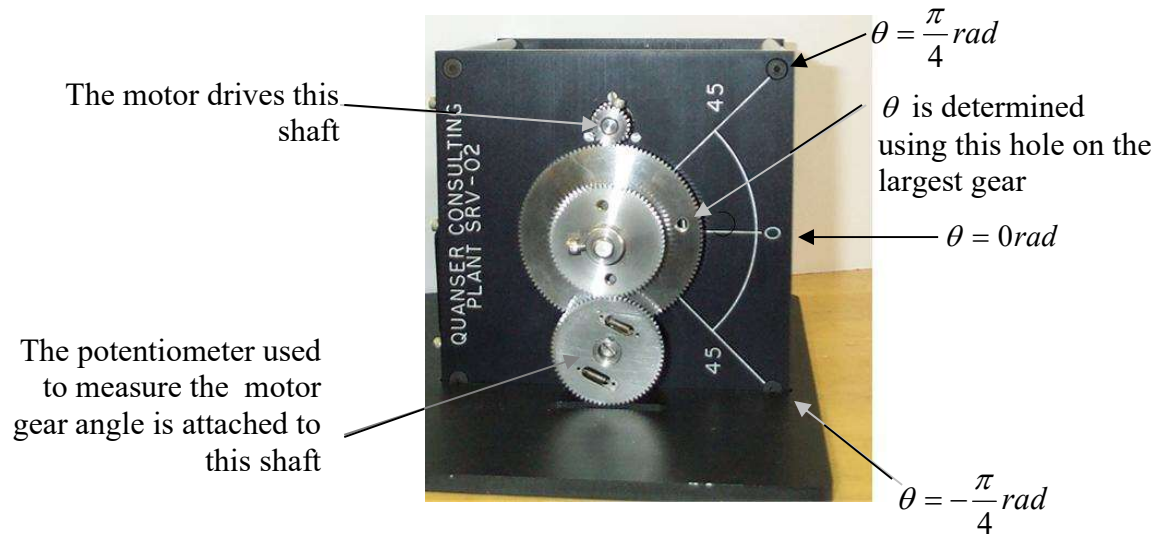

FIGURE 8: The motor system plant for Lab 1
- (b) Check out your experimental station. Figure 8 shows a detail of the motor system plant and how to correctly measure the gear angle θ .